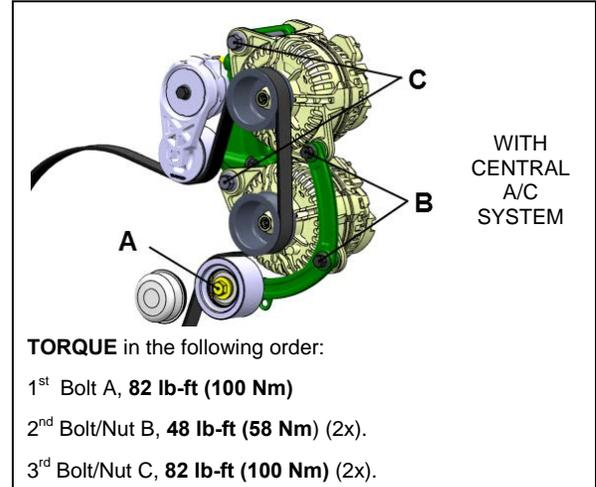

Figure 39: ALTERNATOR MOUNTING, TIGHTENING SEQUENCE – CENTRAL A/C SYSTEM
6. In order to assure installation, it is important to tighten the alternator mounting bolts in proper sequence. (Figure 39 & Figure 40).